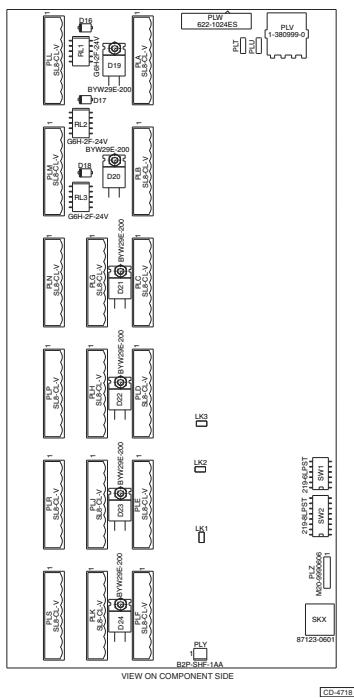

Figure 6e - Processor PCB (NNR-A980): Link and Switch Positions
- 37 The link and switch positions for the Processor PCB are as shown in Figure 6e below.